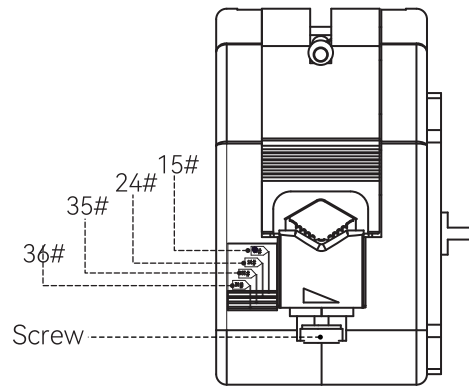

Figure 4 Tube Adjustment
- According to the thickness of the tube, rotate the screw at the bottom of the tube clamp (Note: the triangle on the tube clamp is the direction indicator), and clamp the tube, as shown in Figure 4.